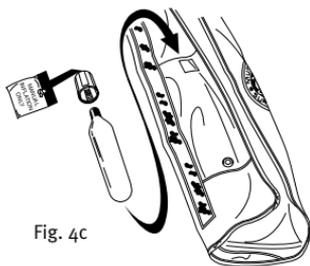

Fig. 4c
After purchasing your AirForce®, make sure it has an unused 33 gram CO₂ cylinder attached to the inflator mechanism (Fig. 1a) and a spare CO₂ cylinder and yellow manual cap stowed in the accessory pocket (Fig. 4c).
- 5) Inspect the accessory pocket found under the wearer's left lobe of the bladder. Ensure that there is one unused CO₂ cylinder and a yellow manual cap (Fig. 4c). Reposition the inflator's protective cover and refasten the chest flap. If everything checks out according to the preceding instructions, your AirForce® PFD is ready for use.
- 5) Remove the yellow Manual Cap and spare CO₂ cylinder from the pocket located under the left cover of the inflatable cell. Place the auto cap in the pocket for future use.(Fig. 4c).
- 4) Unscrew the Auto Cap from pocket located under the left cover of the inflatable cell. Stow the Manual Cap (with hang-tag along with an unused CO₂ cylinder in the pocket and skip to step 7. (Fig. 4c).